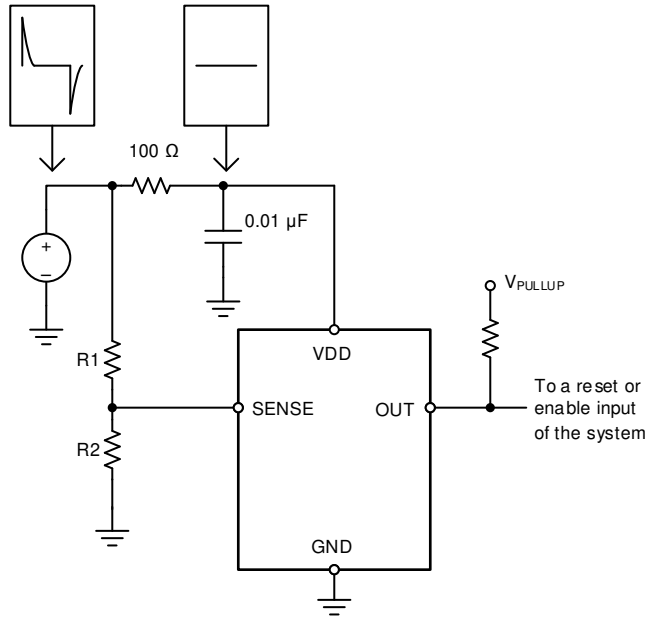

图 7-5. Using an RC Filter to Remove High-Frequency Disturbances on VDD
The TPS3711 has a 40-V absolute maximum rating on the VDD pin, with a recommended maximum operating condition of 36 V. If the voltage supply that provides power to VDD is susceptible to any large voltage transient that may exceed 40 V, or if the supply exhibits high voltage slew rates greater than 1 V/ $\mu$ s, then place an RC filter between the supply and VDD to filter any high-frequency transient surges on the VDD pin. In these cases, a 100- $\Omega$  resistor and 0.01- $\mu$ F capacitor are required, as shown in 图 7-5.
- Avoid using long traces for the VDD supply node. The VDD capacitor ( $C_{VDD}$ ), along with parasitic inductance from the supply to the capacitor, might form an LC tank and create ringing with peak voltages above the maximum VDD voltage. If long traces are unavoidable, see 图 7-5 for an example of filtering VDD.